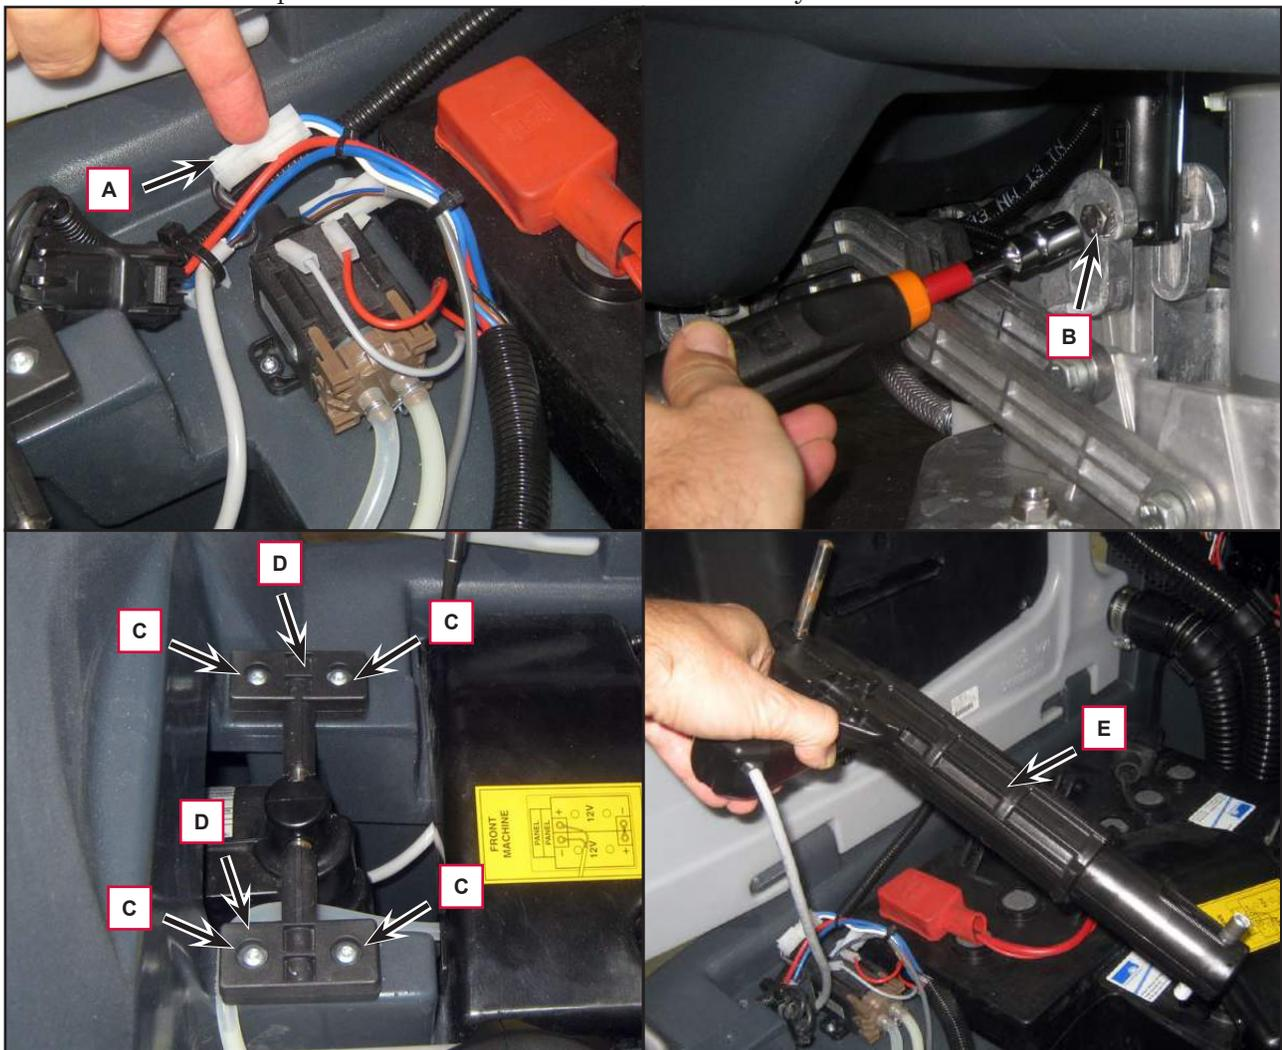

Figure 13
3. Remove the cover and disconnect the actuator connector (A) (Figure 13).
4. Unscrew the screw (B) of the lower pin, retaining the bushings.
5. Remove the screws (C), retaining the plates (D).
6. Remove the actuator (E).